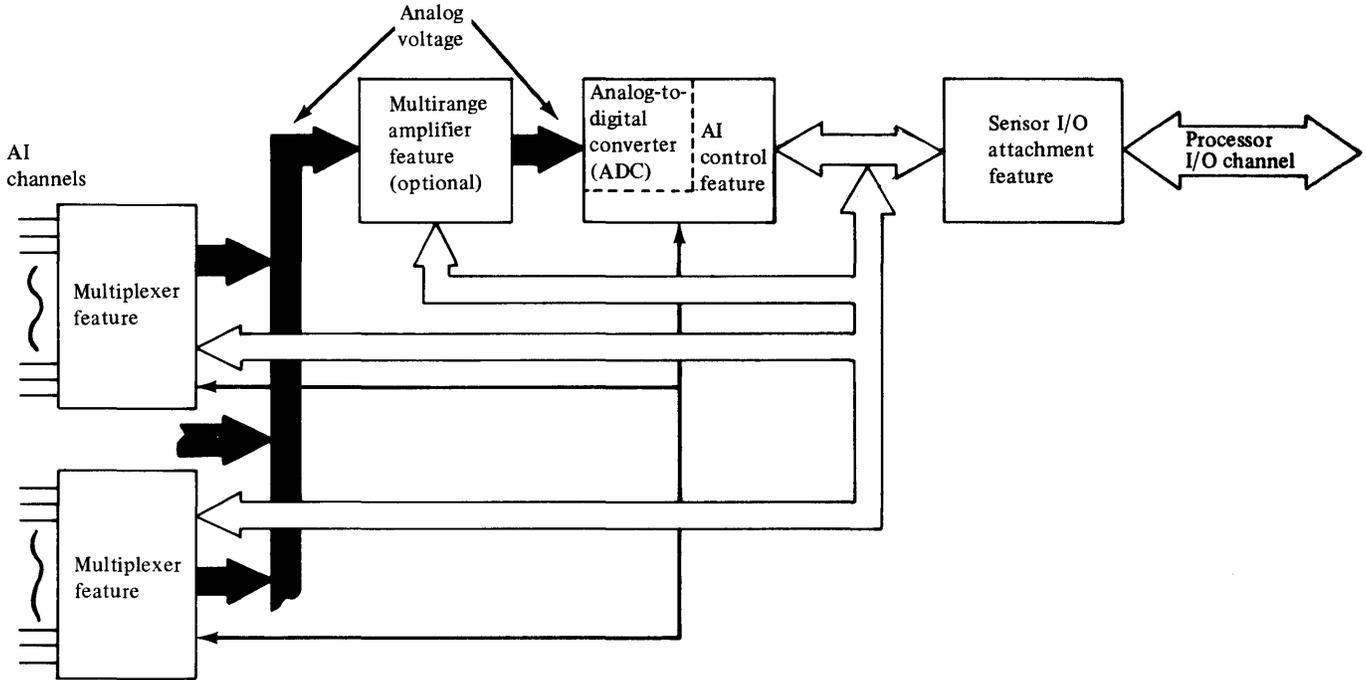

Figure 3-9. AI features data flow
Analog input (AI) features (Figure 3-9) may be considered a program controlled voltmeter, with the capability to select one of up to 112 input signals under program control. Due to the complexity of the AI features, they require more program control than other 4982 features. The physical characteristics of the AI features are described in Chapter 1.